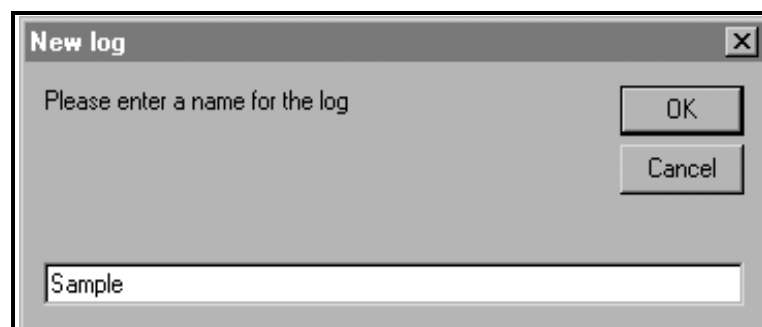

Figure 3-8: Log Name Dialog Box
5. Enter a log file name ("*Sample*" in this case) in the dialog box shown in Figure 3-8 below. Click on the [OK] option button.